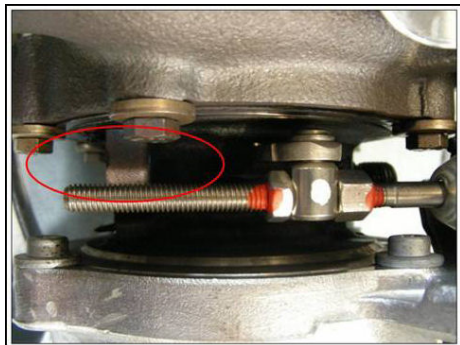

Figure 6
- Inspect the turbo charger to see whether the stud with clamp nut is missing (Figure 6).